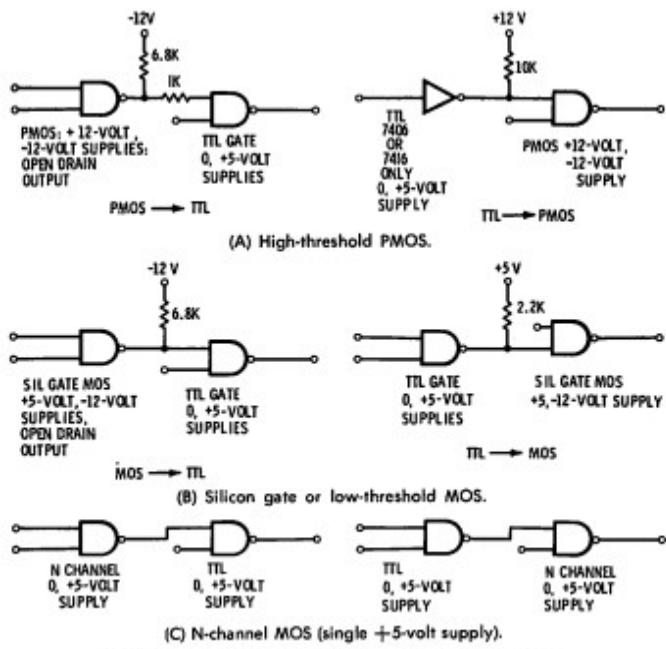

Fig. 1-14. Some typical MOS-to-TTL interfacing techniques.
**MOS**-Silicon gate or n-channel low-threshold MOS sometimes needs a pull-down resistor on its outputs to properly drive TTL (Fig. 1-14). When TTL drives MOS, a pull-up resistor is usually needed. TTL fan-out into MOS is very high, but MOS fan-out into TTL is usually one input and often you cannot simultaneously drive MOS and TTL. Older, high-threshold PMOS families may need open-collector outputs and pull-up resistors on the TTL drivers if the positive supply voltage is 12 V. Older MOS runs on a 12-V, -12-V supply system. Newer silicon-gate MOS runs on +5 V, -12 V, and the +5-V supply should be common with the +5 V of the TTL. Newest of all is n-channel MOS. It usually works on a single +5-V supply and is directly compatible with TTL.